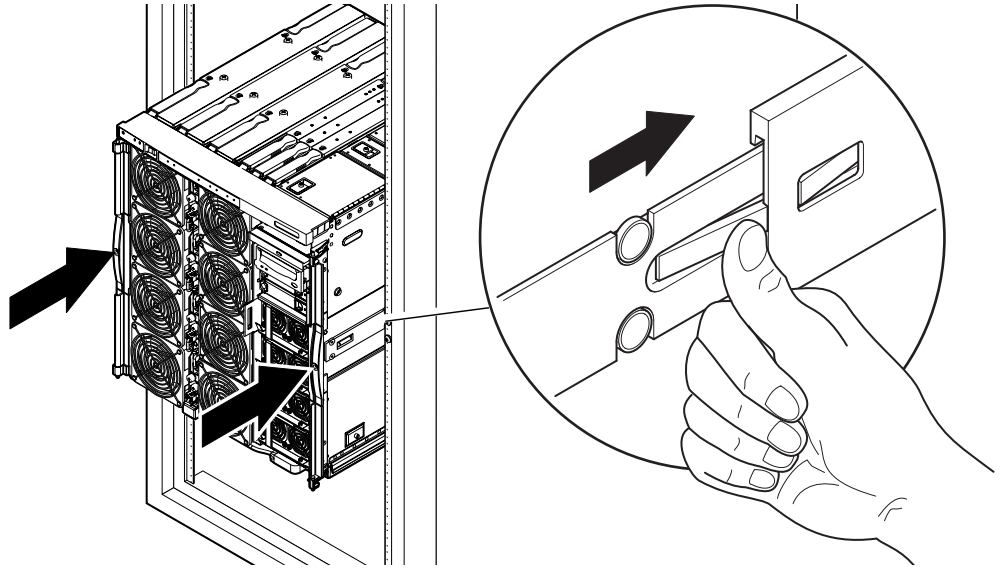

FIGURE 1-11 Pushing the System into the System Cabinet
11. Press the green latches on each slide and push the system into the cabinet (FIGURE 1-11).